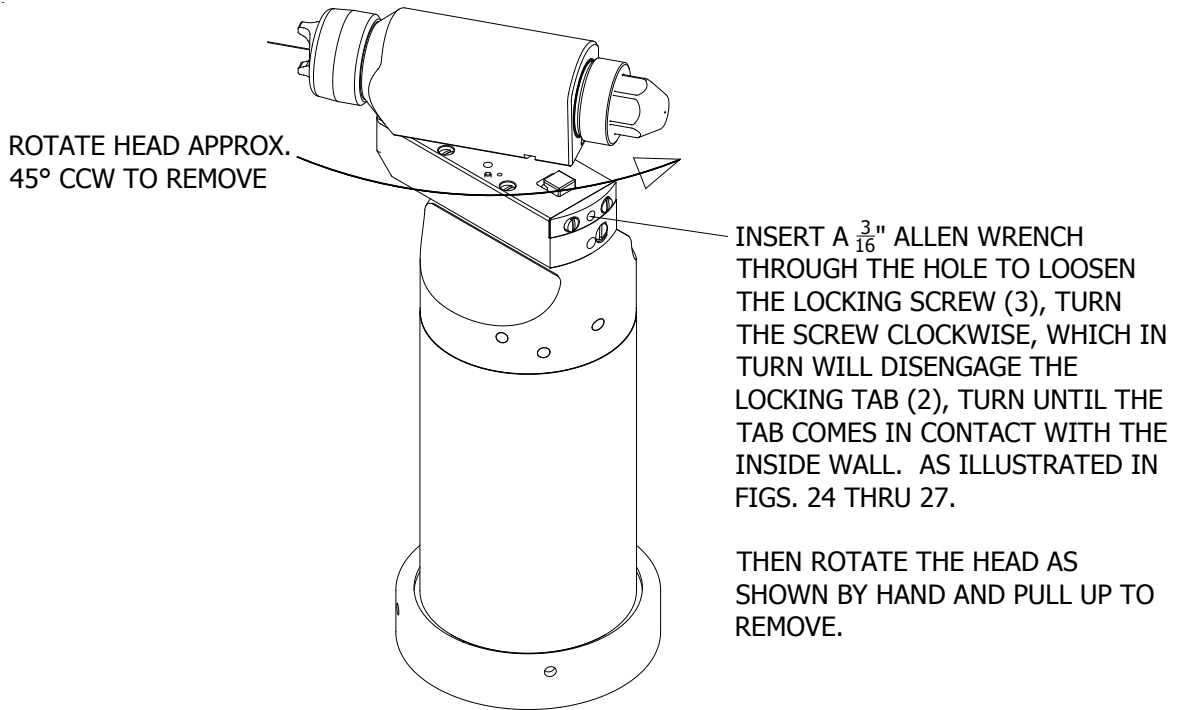
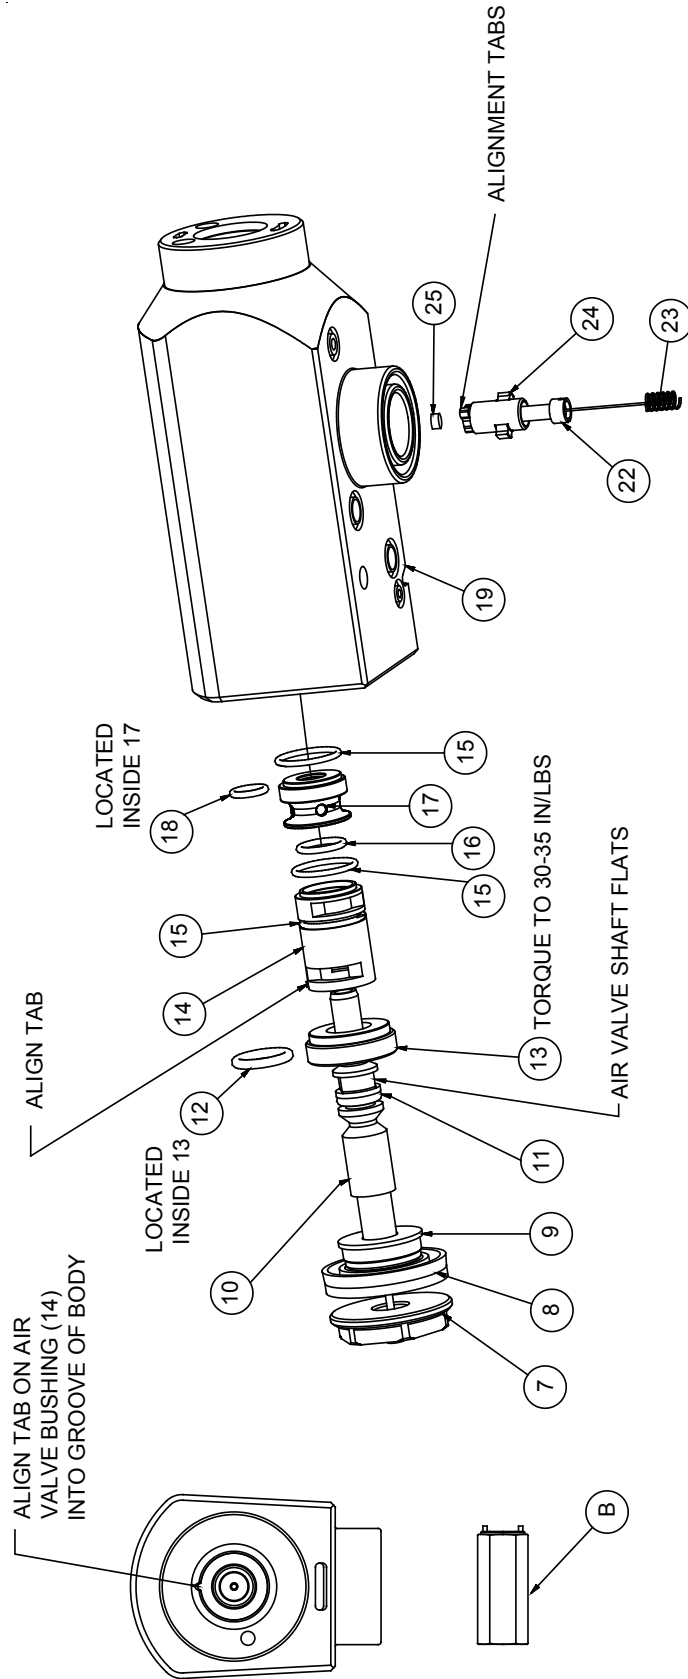
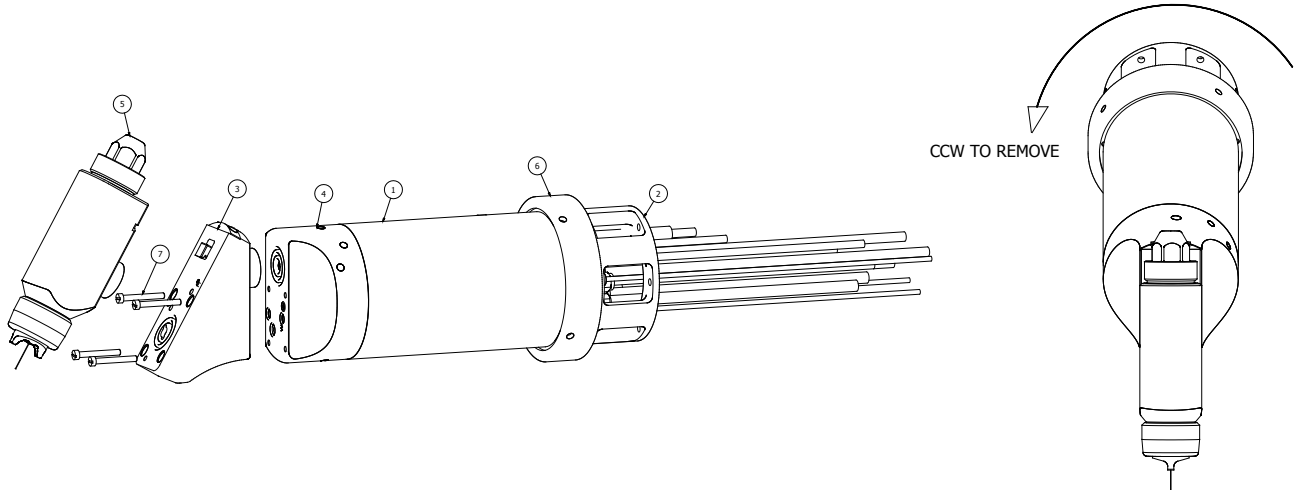

Figure 10a: Spray Head Removal
Figure 11: 79138 Evolver Applicator Head Assembly
Figure 12: Evolver 303 60° Single Head Applicator Assembly
(See Figure 10a and 10b)
The spray head can be removed from assembly as shown in Figure 10a for cleaning and service.
- ▶ At assembly, apply a small amount of dielectric grease to grooves in spray head and valve manifold to reduce high voltage breakdown. Excessive grease will not allow spray head [5] to seat fully against mounting block assembly [3] (see Figure 12).
(See Figures 10a, 10b, 11, and 12)
15. Reattach spray head to manifold block by engaging the connection plug [24] (Figure 11) into the mounting block cavity [3] (Figure 12), and turn clockwise until head contacts stop pin on the block, as shown in Figure 10a.
16. Secure with locking tab by turning screw counter-clockwise (see Figure 10a).
(See Figure 11)
6. O-rings [12] and [18] must be installed inside their mating parts (see Figure 11).
8. Reassemble the remaining parts as shown in Figure 11 making sure that the alignment tab on the bushing [14] lines up with the align groove in the body [19].
79138 EVOLVER APPLICATOR HEAD ASSEMBLY - PARTS LIST (Figure 11)
(See Figure 12)
4. Remove applicator from robot by turning the retaining ring [6] counter-clockwise from the manifold robot mounting plate [2] (see Figure 12).
5. Remove spray head [5] (Figure 12) as previously described in Figure 10a.
Spray Applicator Disassembly (See Figures 12, 13, 14, and 15)
6. Remove the four (4) screws [7] from mounting block [3] and pull the block out of the upper manifold [4] as shown in Figure 12.
EVOLVER 303 60° SINGLE HEAD APPLICATOR ASSEMBLY - PARTS LIST (Figure 12)